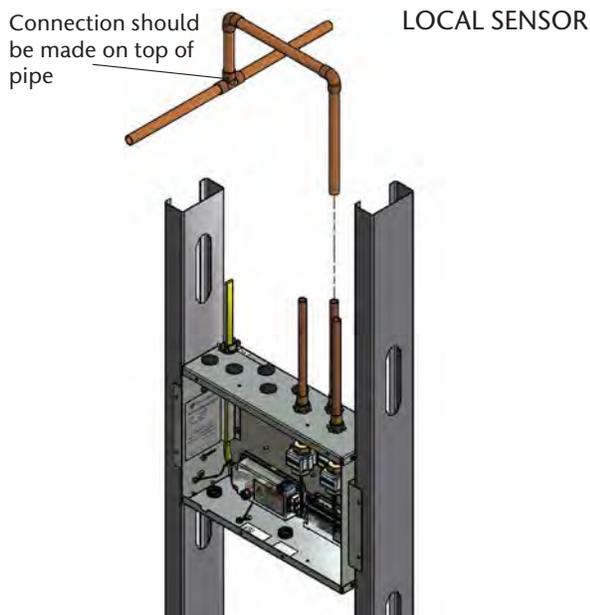

Figure 17: Sensor Pipeline Connection
3. Braze copper adapter tube(s) to appropriate pressure/vacuum piping system drops (Figure 17). Braze connections per procedures required by NFPA 99 or CAN/CSA-Z7396.1-12. Use appropriate measures to prevent overheating.